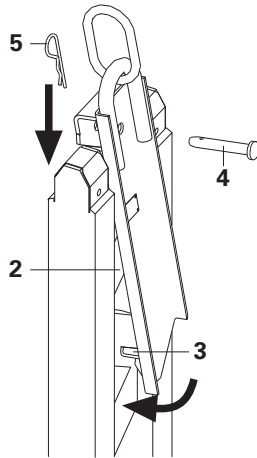
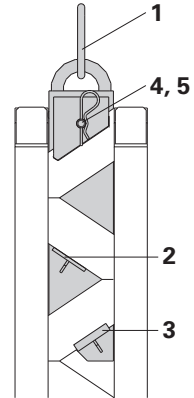

Fig. 1a
Fig. 1b
1. Release cotter pin (5), loose and remove pin (4) and insert Crane Splice 24 from above, at a slightly angled position, on the end strut of the GT 24 girder.
2. Swivel contact plate (2) and angle bracket (3) between the girder struts.
- (Fig. 1a)
3. Pull Crane Splice 24 upwards until the angle bracket (3) encircles the struts of the GT 24 girder.
- (Fig. 1b)
4. Insert pin (4) into the Crane Splice 24 and secure using the cotter pin (5).